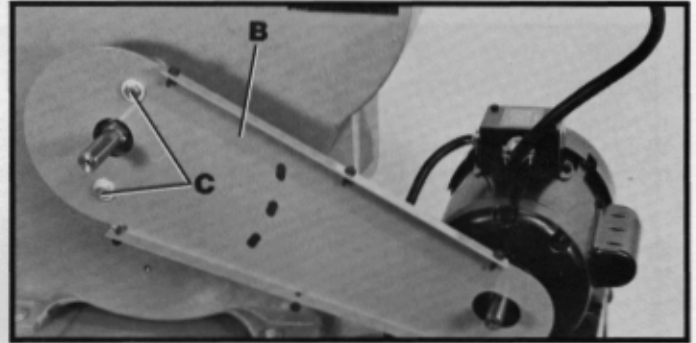

Fig. 15
2. Assemble the inside belt and pulley guard (B) Fig. 15, over the arbor and motor shafts as shown and fasten the guard to the machine using the two 1/2-inch long hex head cap screws and flat washers (C). NOTE: Do not completely tighten the screws at this time.